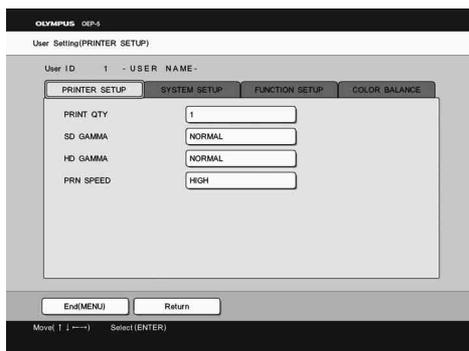

Figure 5.5
- 3 Press “◀” or “▶” to display the “PRINTER SETUP” menu (see Figure 5.5).